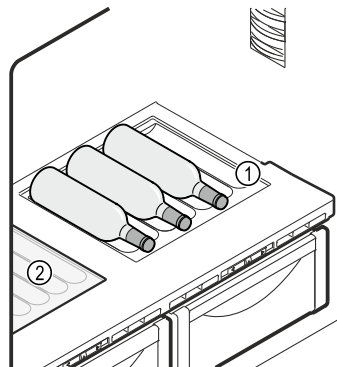

Fig. 57 Example illustration
- Lift one or both glass shelves (1) at the front and remove.
- Insert the glass shelf Fig. 57 (2) under the variable bottle rack.